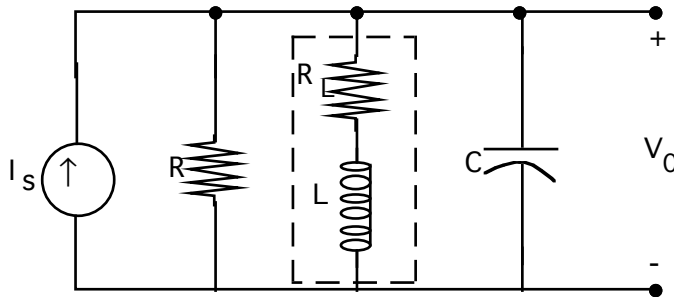
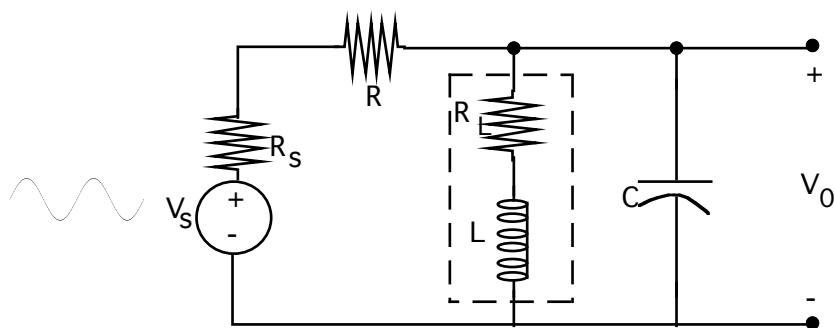

Fig. 5 A More Realistic Parallel - Resonant Circuit
Fig. 7 A Parallel - Resonant Circuit
A more realistic parallel-resonant circuit is shown in fig. 5. It is a more realistic model because it accounts for the losses in the inductor through its d.c. resistance R_L .
Using source transformation, the parallel - resonant circuit in fig. 5 can be represented as shown in fig. 7 where R_s is the internal resistance of the function generator.
Build the circuit of fig. 7 using $R = 620 \Omega$, $L = 100 \text{ mH}$, and $C = 0.1 \mu\text{F}$.
- 5.6 Using eqs. 9 & 12, determine the theoretical f_0 , and f_m for the resonant circuit shown in fig. 7. Compare with the experimental ones.
- 5.9 Simulate the parallel-resonant circuit of fig. 7 in PSpice, and plot V_0 vs frequency. Vary the frequency from 600 Hz to 2,500 Hz in increments of 100 Hz. Compare with the experimental plot.